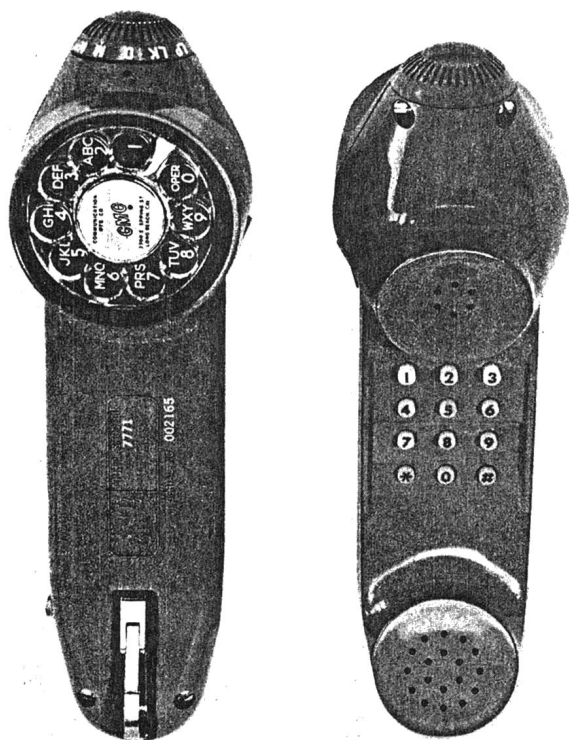

Figure 1 CMC Trub-L-Shooter Front and Back Views
1.01 This Section is issued to present the description and operating procedures for the CMC 7770, CMC 7771, CMC 7774, CMC 7775, CMC 7776, and CMC 7777 TRUB-L-SHOOTER® Hand Test Telephones (see Figure 1).